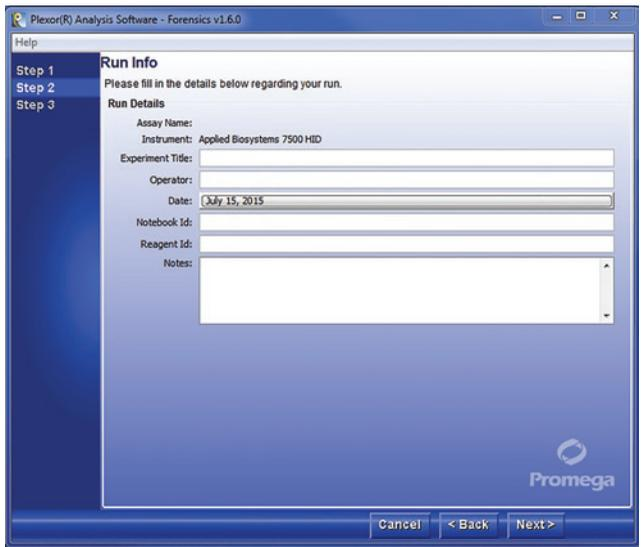

Figure 19. Step 2 – Run Info screen. Enter run-specific information.
8. Enter information specific to your run in the Run Info screen, Step 2 (Figure 19). Details such as the date, notes, title, etc., also can be entered. These fields are optional.